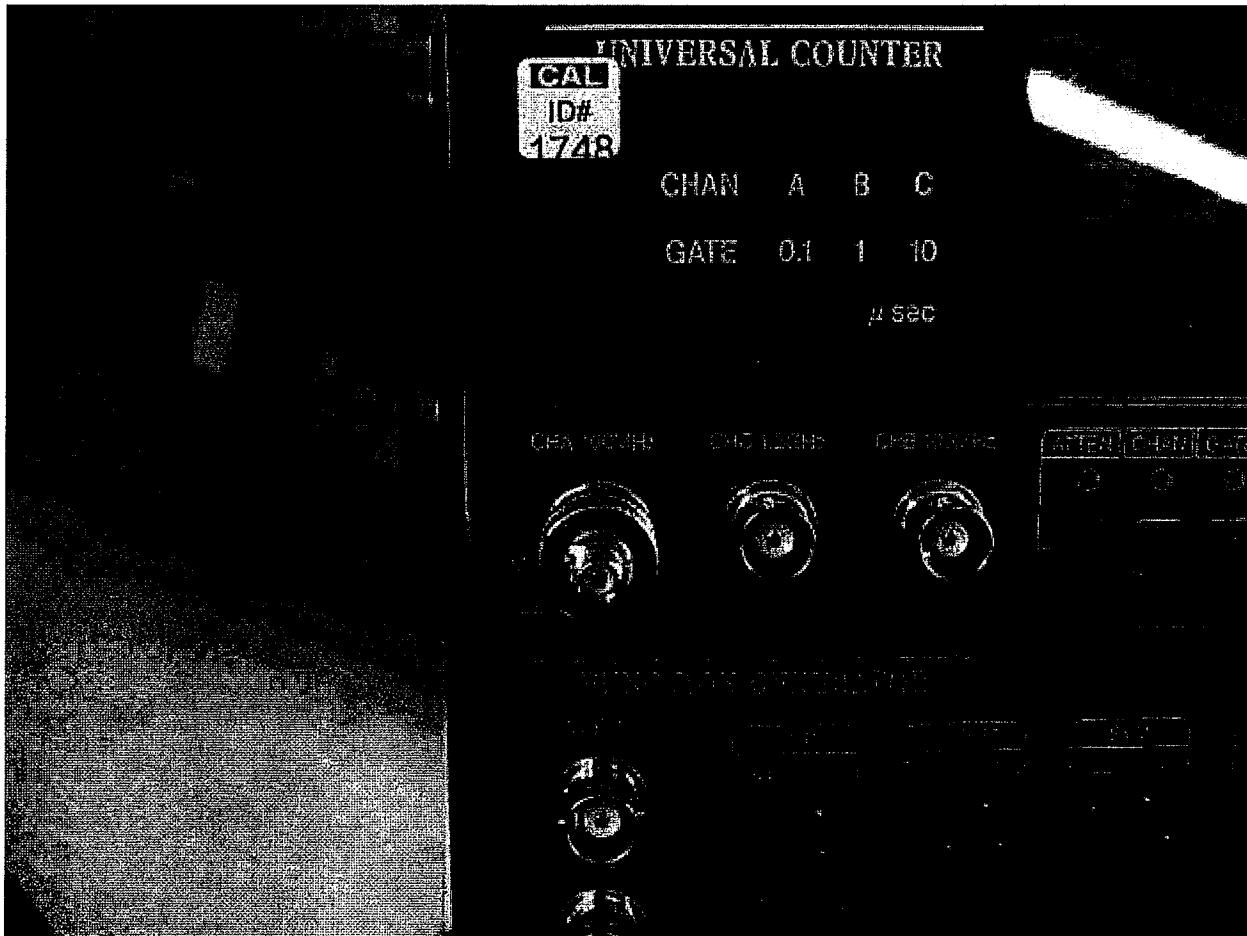

Figure 20
9.9.1 Turn power off to DUT and remove connection from Spectrum Analyzer Input and connect to Frequency Counter CH A 100 MHz Input. See Figure 20 below for details. Make sure that CHAN A is selected and GATE is at 1 usec.